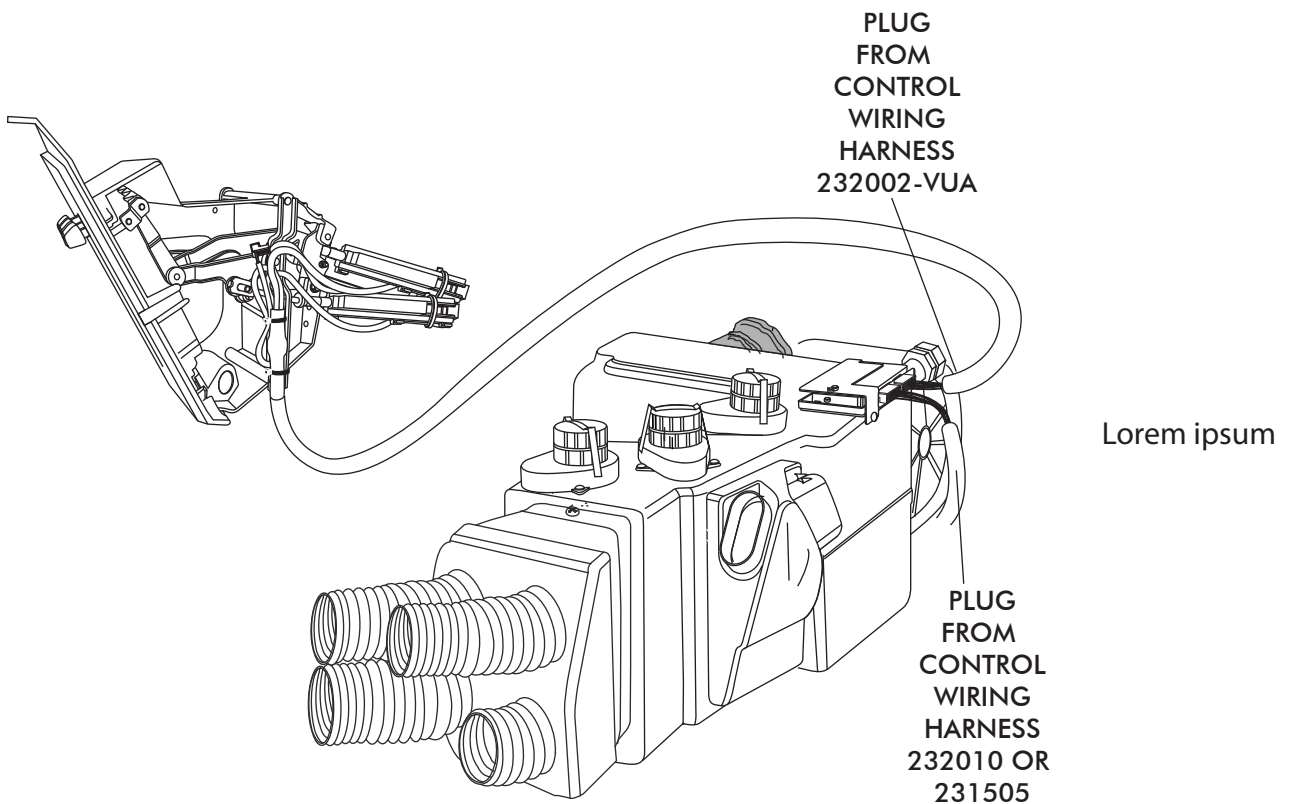

FIGURE 10
- PLUG THE WIRING HARNESS INTO THE ECU MODULE ON THE SUB CASE (SEE FIGURE 10, BELOW).